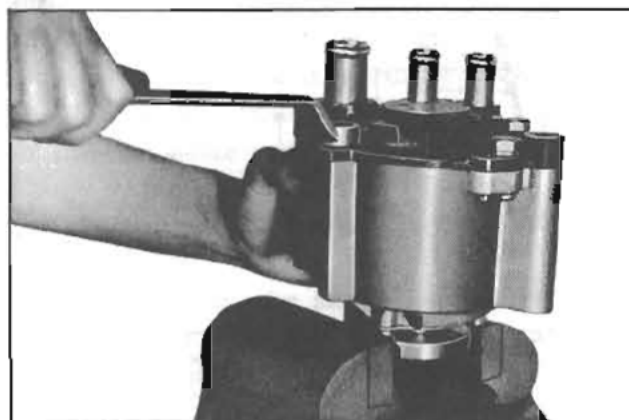

Fig. EC-9 Removing end cover
2. Secure the air drive hub in a vise, as shown in Figure EC-9 and remove four housing end cover bolts.